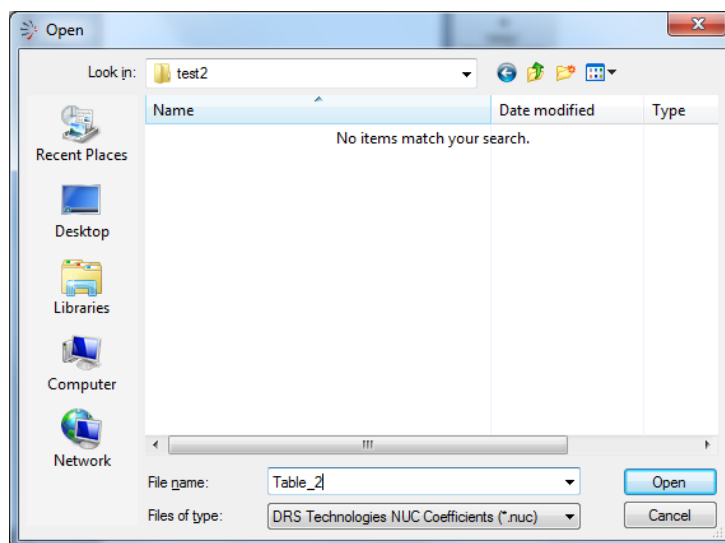

Figure 45: Download to PC
The user is prompted to save the file to the PC, see Figure 45. In the example shown, Table 2 was selected. The downloaded file is named Table_2. The saved file will have an extension of .nuc. The .nuc table contains both the gain and offset data, file size will vary depending on the Tamarisk® array format.
2. To upload table data to the camera, select any one of the 5 tables to receive the data. If data is written to an occupied table, the uploaded data will overwrite the current data. In this example, Table 3 is selected. Upon selecting Upload to Camera, the user is prompted to select a file. See Figure 45.